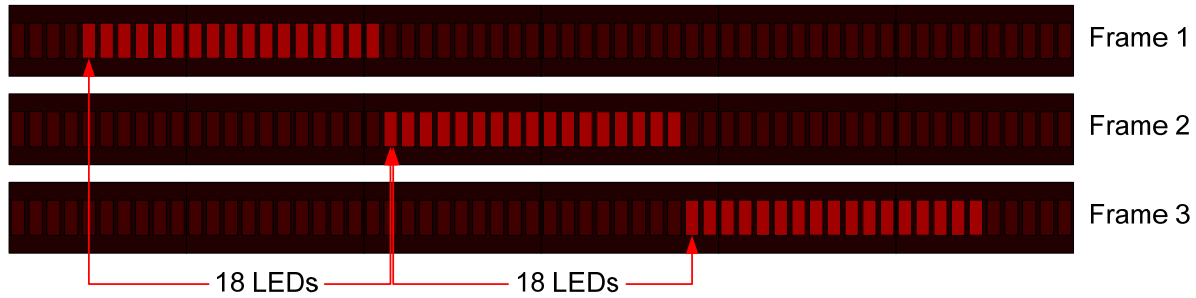

Figure 39. Measuring frame rate
3. Count the number of LEDs between the left-most LED in the first frame to the left-most LED in the second frame. See the example in Figure 39. In the figure, there are 18 LEDs between the left-most LEDs in each frame.